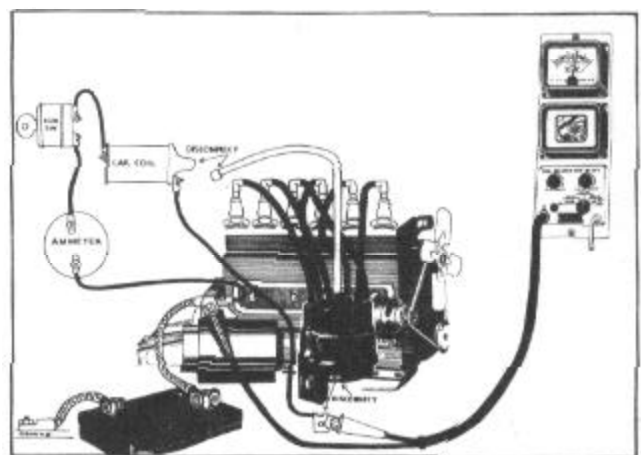

FIGURE 12
1. Connect leads as shown in Figure 12.